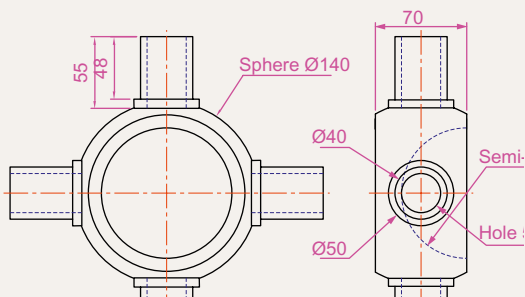
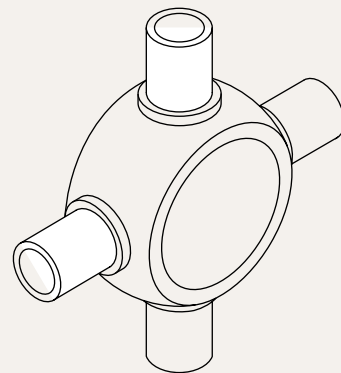

Fig. 13.15 Exercise 2 – working drawing
Fig. 13.16 Exercise 2
- Using the tools **Sphere**, **Box**, **Union** and **Subtract** and working to the dimensions given in Fig. 13.15, construct the 3D solid model as shown in the isometric drawing Fig. 13.16.